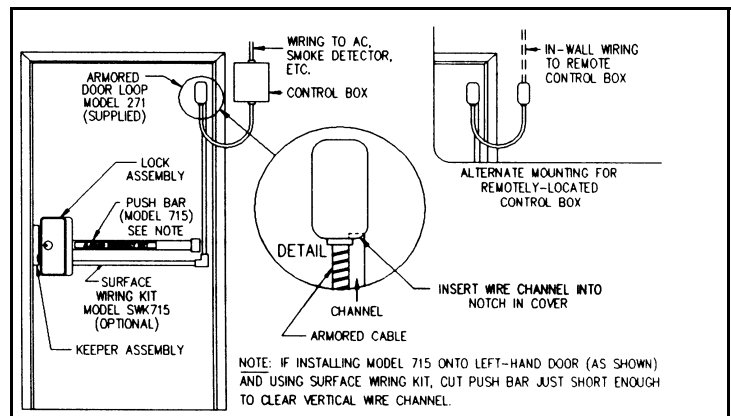

Fig. 1 Typical Installation, left-handed reverse door, inside view. If snaking wires within door, see Note above.
b. (For Model 715 only.) Insert the Push Bar and Channel Assembly under the Channel Retainer Bracket, which is mounted on the Lock Baseplate. Hold the Push Bar and Channel Assembly horizontally against the door using a level. Slide the End Cap Retaining Bracket into the end of the Channel. After checking that the bar is level, use the Channel as a template to mark and drill two #22 or $\frac{5}{32}$ " mounting holes into the door. If the Channel is too long, cut the Channel and the Channel Insert to the proper length, keeping them as long as possible, and deburr the edges. **Note:** If installing onto a left-hand door and using a Surface Wiring Kit, cut the Channel and Channel Insert just enough to clear the vertical wire channel. See Fig. 1.